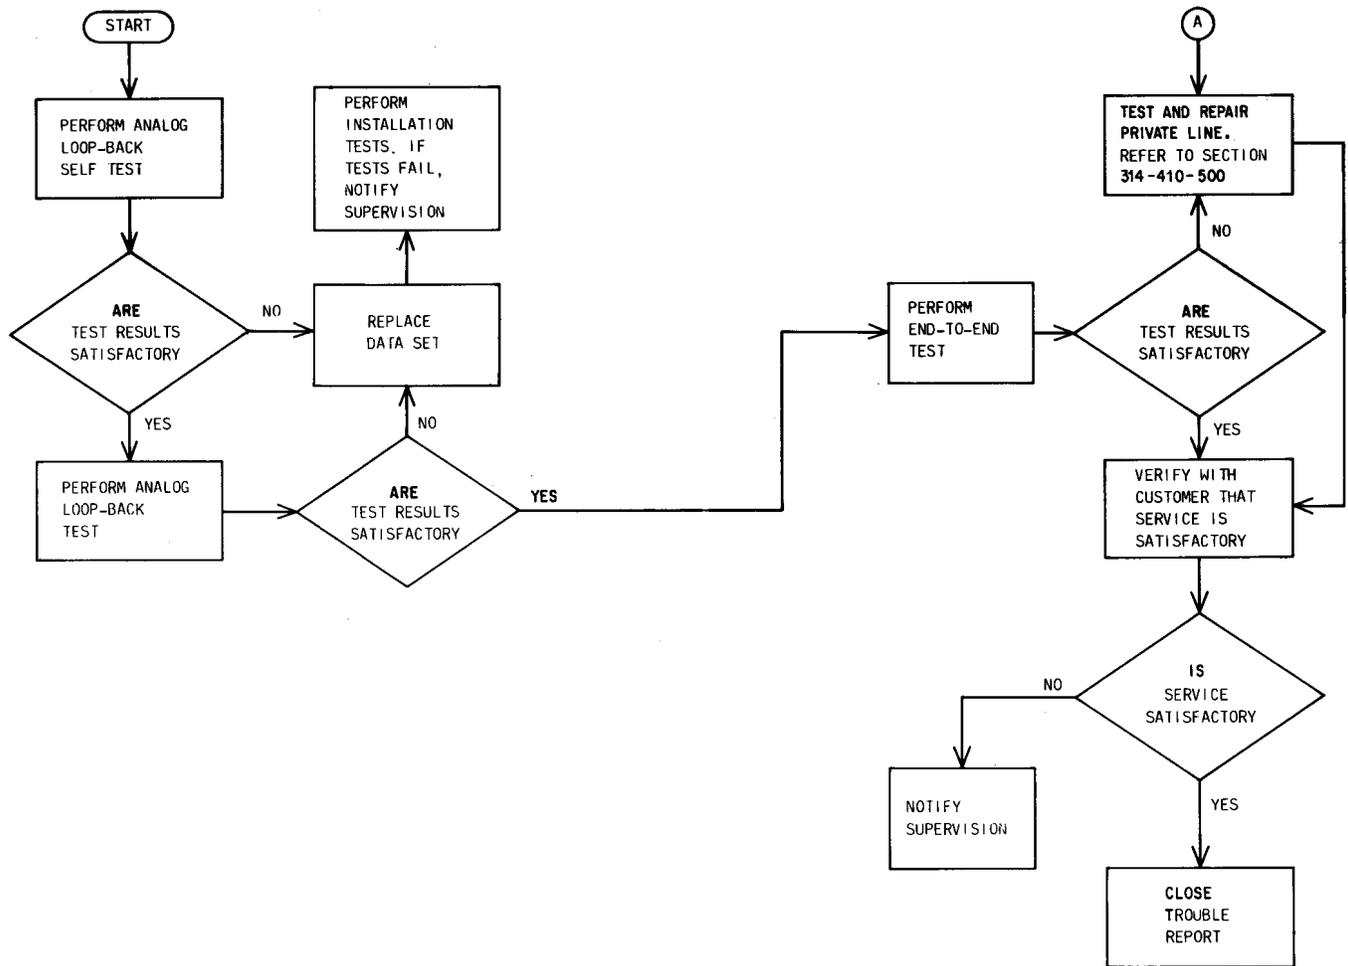
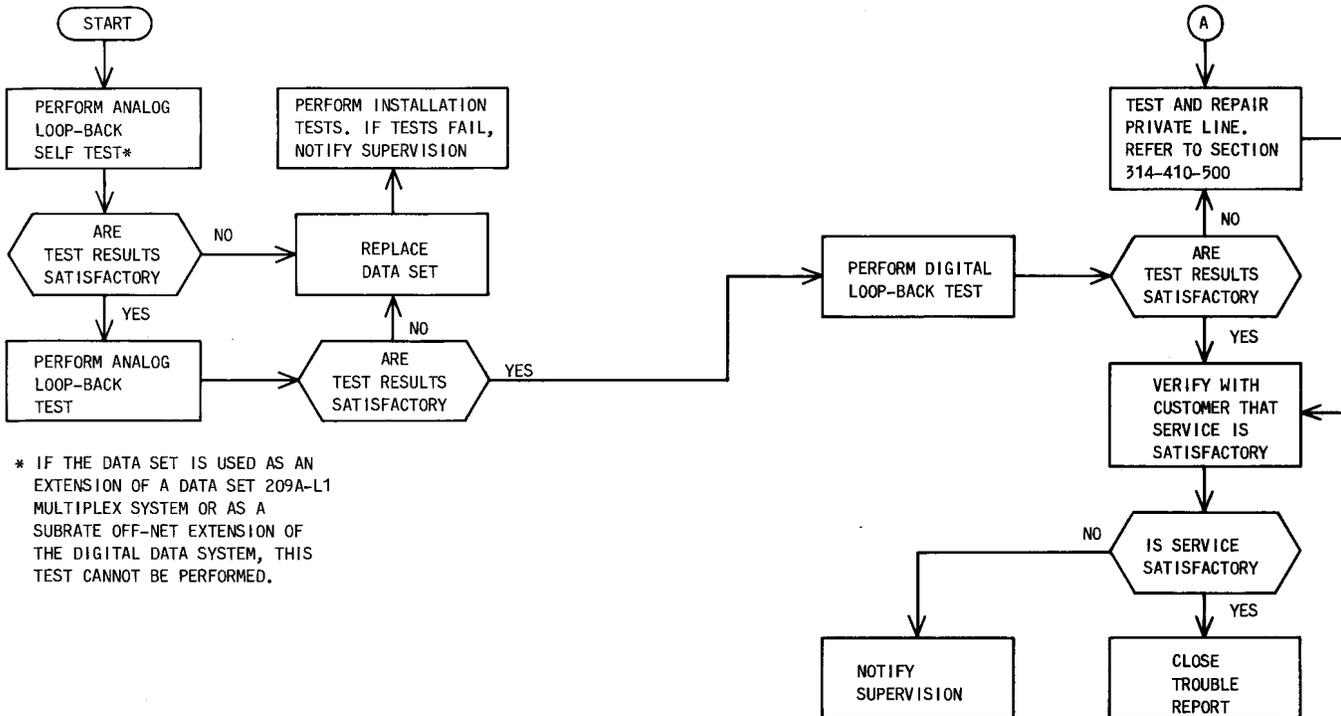

Fig. 5—Maintenance Test Sequence (2-Wire Private Line)
Fig. 6—Maintenance Test Sequence (4-Wire Private Line)
**3.03** For a 2-wire private line, the maintenance test sequence is shown in Fig. 5. For a 4-wire private line, the maintenance test sequence is shown in Fig. 6.